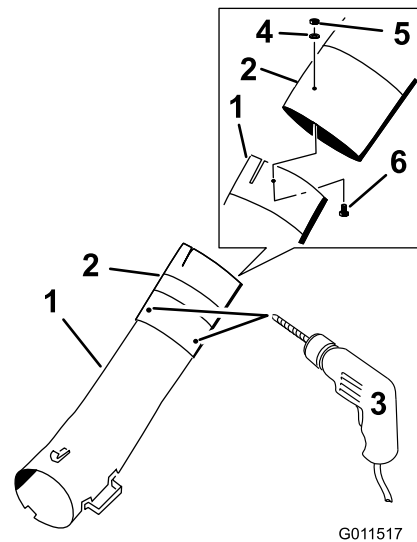

Figure 21
3. Using the three holes or indentations in the middle tube as a template, drill 3 holes (7/32 inch diameter) where the lower and middle tubes join together (Figure 21).
4. Loosely install the lower and middle tubes with 3 bolts (#10 x 3/4 inches), 3 flat washers (7/32 inch), and 3 locknuts (#10) (Figure 21).